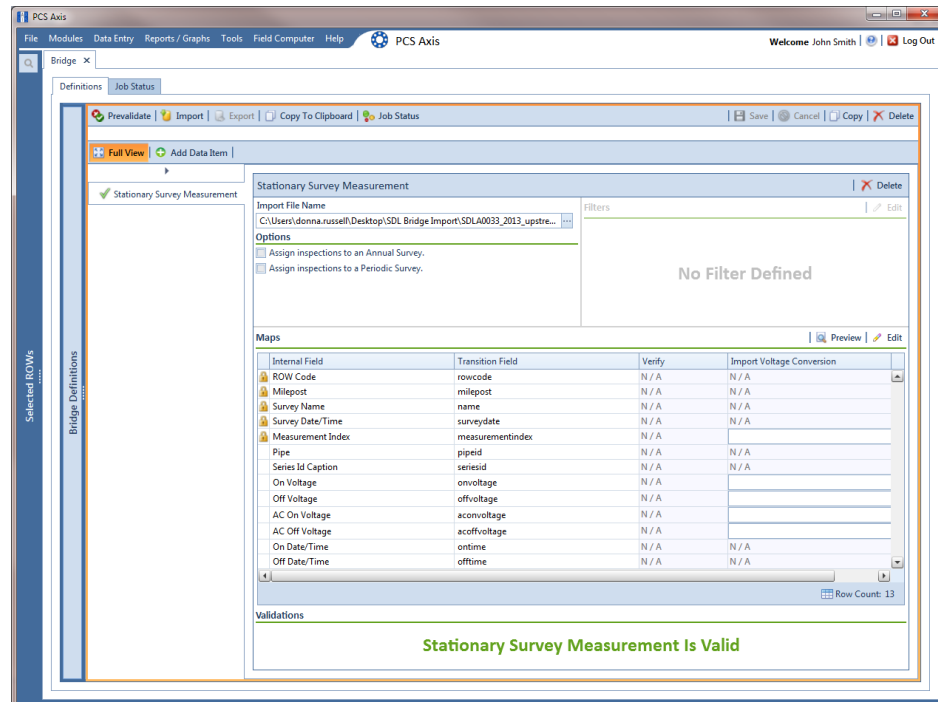

Figure 10-20. Bridge Definition
After processing files, the definition window opens. The *Maps* group box includes a list of field mappings in the columns labeled *Internal Field* (PCS Axis) and *Transition Field* (SDL survey) as shown in the following example (Figure 10-20).
- 15 To assign the SDL survey to a survey folder based on the survey date, complete one or both of the following steps in the *Options* group box as required (Figure 10-20, page 509):
- 17 To import the SDL survey in PCS Axis, click  **Import** in the *Definitions* window (Figure 10-20, page 509).